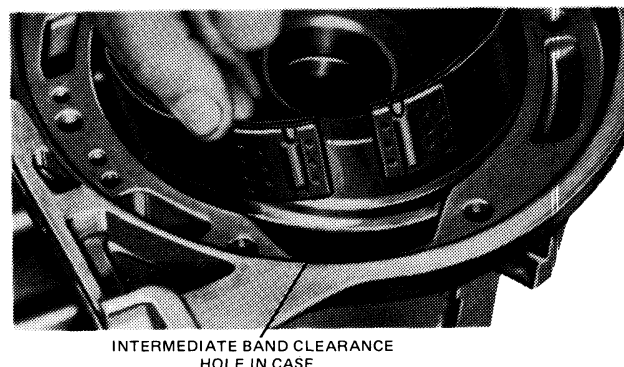

FIG. 20 Position of Intermediate Band for Removal or Installation
4. Remove the intermediate and low-reverse band adjusting screws from the case. Rotate the intermediate band to align the band ends with the clearance hole in the case (Fig. 20). Remove the intermediate band from the case. **If the**